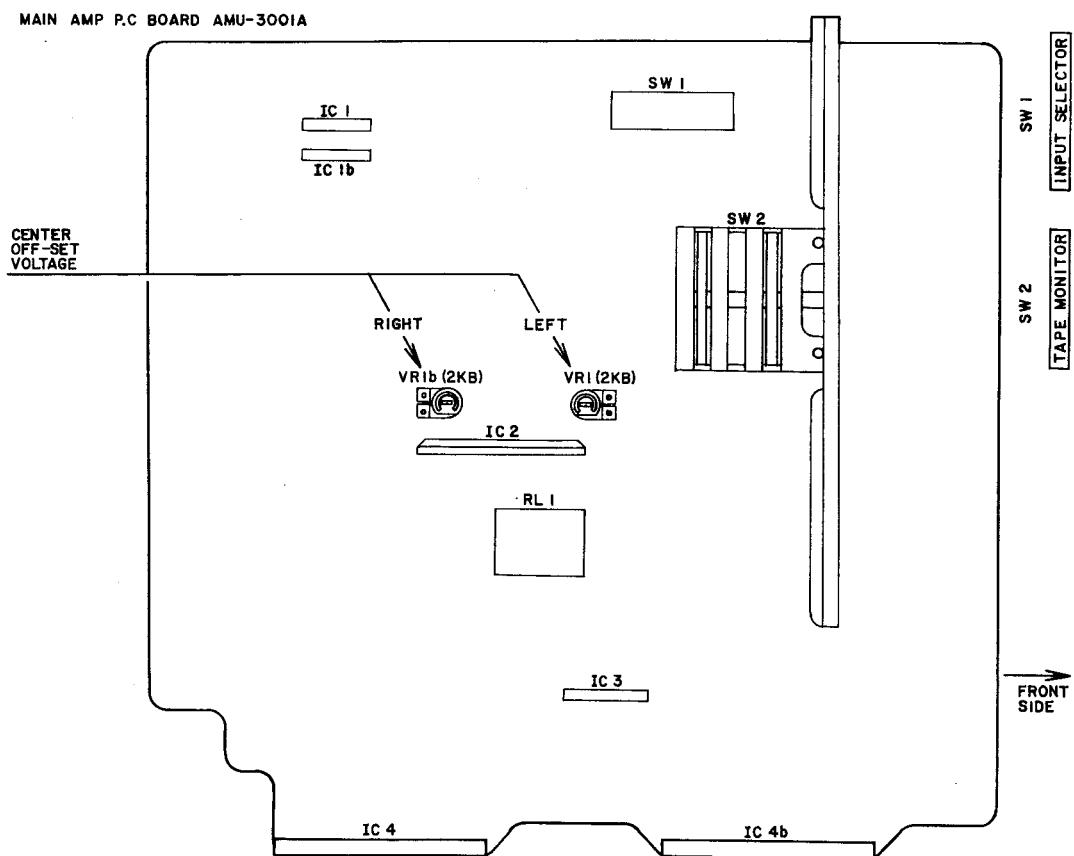

Fig. 6 Center Off-set Voltage
1. CENTER OFF-SET VOLTAGE ADJUSTMENT (Refer to Figs. 6, 8)